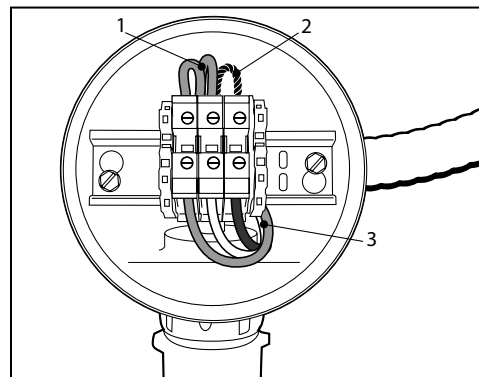

Figure 15-35
3. Power/Ground Leads from heat trace controller (DF-FPT130) (Figure 15-35)